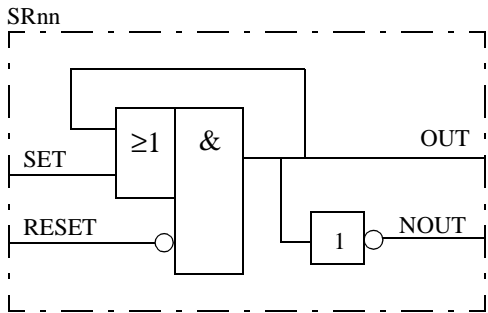

Figure 14: Function block diagram of the Set-Reset function
2.8 Set-Reset (SR)
The function block Set-Reset (SR) (Figure 14:) has two inputs, designated SRnn-SET and SRnn-RESET, where nn presents the serial number of the block. Each SR circuit has two outputs, SRnn-OUT and SRnn-NOUT (inverted). The output (OUT) is set to 1 if the input (SET) is set to 1 and if the input (RESET) is 0. If the reset input is set to 1, the output is unconditionally reset to 0.